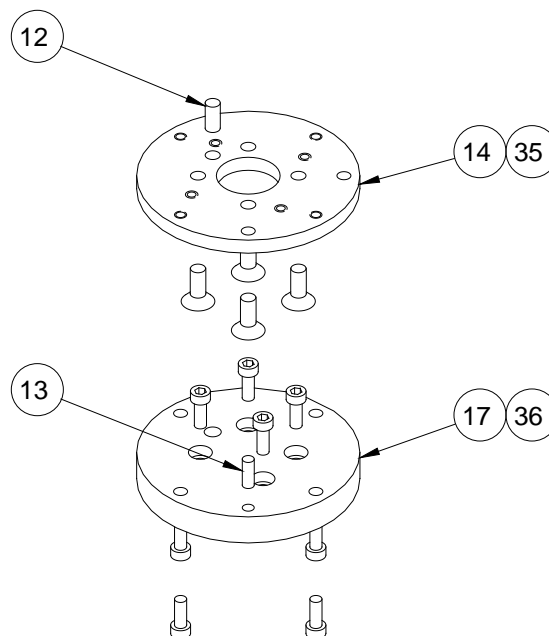

Figure 10-1 Insulator Plate and Mounting Plate
1. Remove the four #10-32 x 1/2 inch socket-head capscrews (Item #36, Figure 10-1) from the insulator plate (Item #17) to remove the robot mount plate (Item #14). Save these screws; they will be used later.